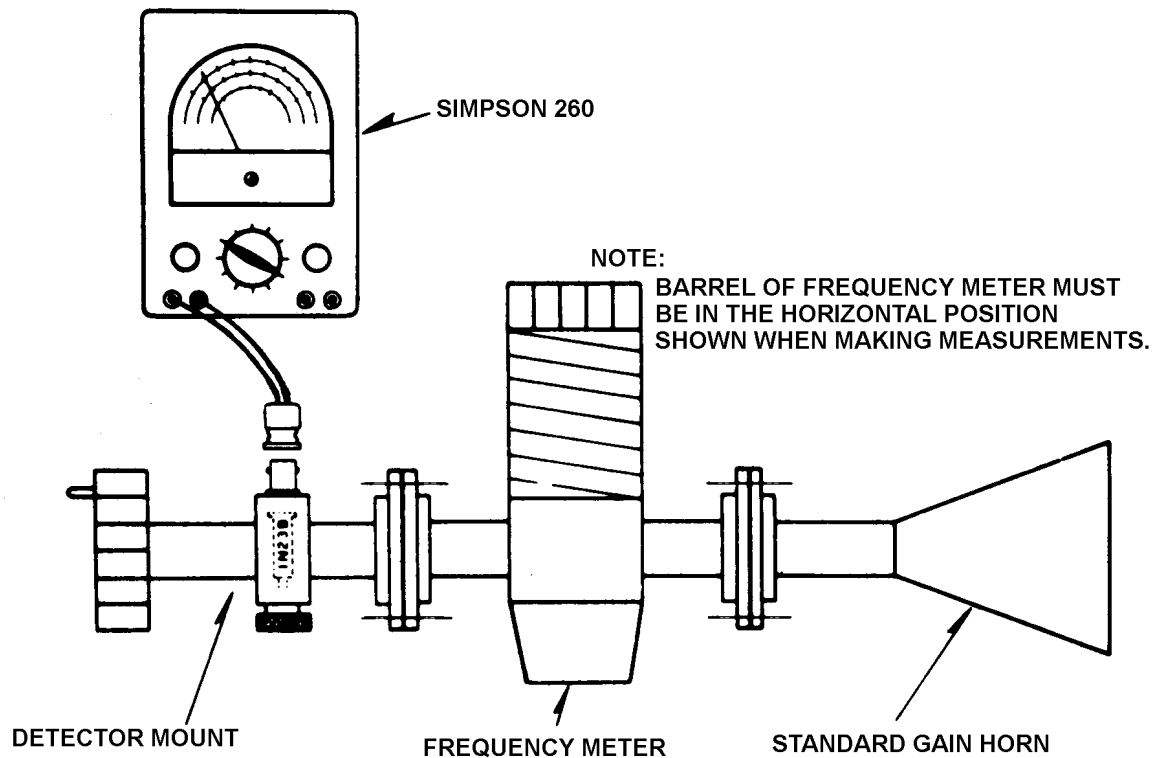

Figure 3-1. Frequency Measuring Test, Portable Set-up
2. Insert IN23B crystal in detector mount and attach standard gain horn antenna (see Figure 3-1 below). Use coaxial cable, such as RG-58, to connect the Simpson voltmeter to the circuit.